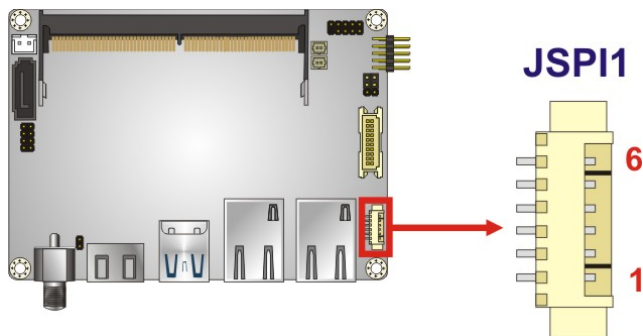

Figure 3-16: SPI Flash Connector Location
- CN Location:** See **Figure 3-16**